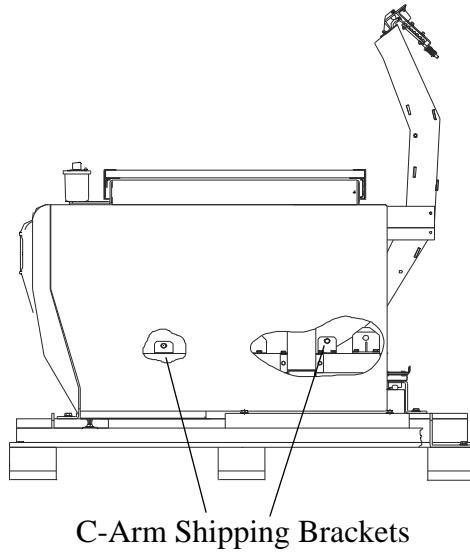

Figure 3-8. Shipping Bracket Locations (A and SL)
1. Remove the 2 carriage-to-base shipping brackets (see Figure 3-8).